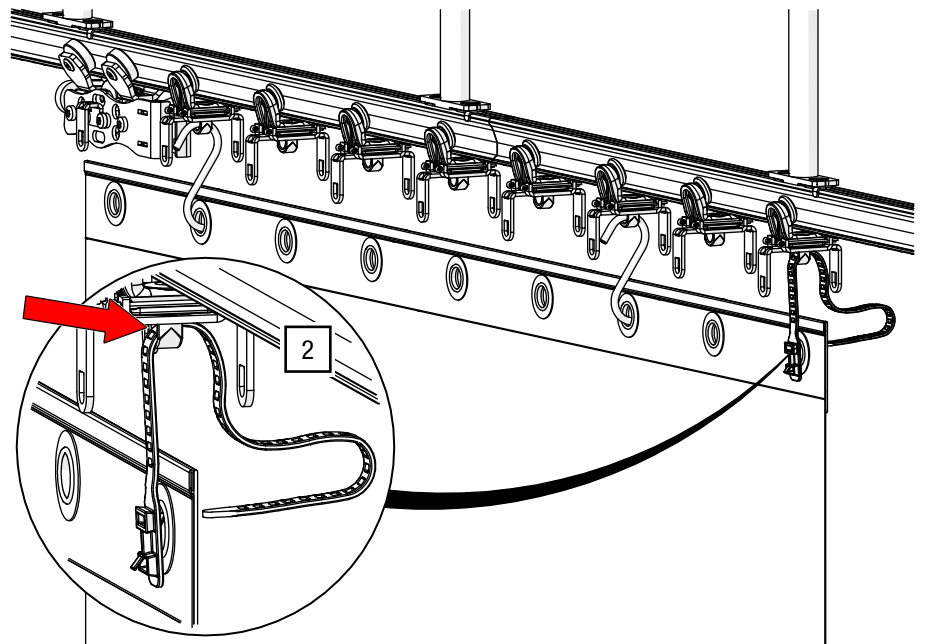

Fig. 104: Soft tie – Thread into G-TRACK OFFICE double-wheel curtain runner
2. Thread the soft tie into the G-TRACK OFFICE double-wheel curtain runner and feed it through the first hole in the soft tie (see Fig. 104).